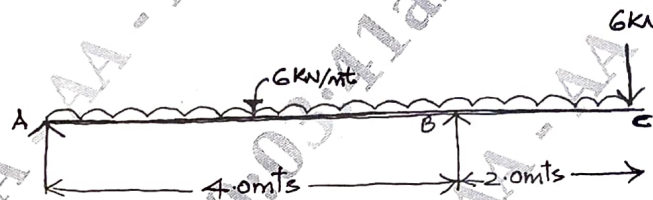

Fig. Q4 (b)
b. Draw the shear force diagram and bending moment diagram for the beam shown in Fig. Q4 (b).